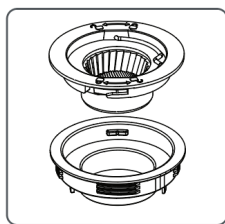

Figure 2
4.2 Remove the inner bean grinding wheel by rotating it counterclockwise. Clean the grinding wheel using a cleaning brush, removing any coffee powder trapped in the tooth gap (see Figure 2).